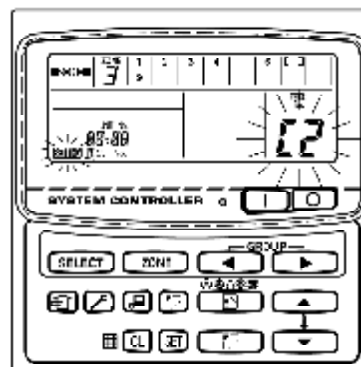

Fig. 15
2) After confirming that CODE No.C1 is displayed press the button. Once in this mode, a change takes place as fig 15.